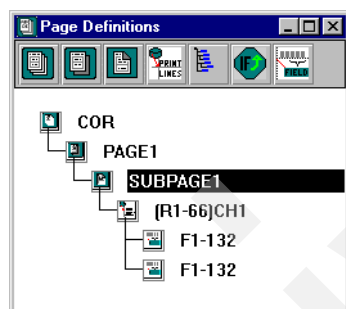

Figure 46. Page definition for sample COR layout
- If you change the repeat value, you may find that there are extra unused printlines in the page definition. It is a good idea to look at the page definition tree. It should be similar to the page definition shown in Figure 46.